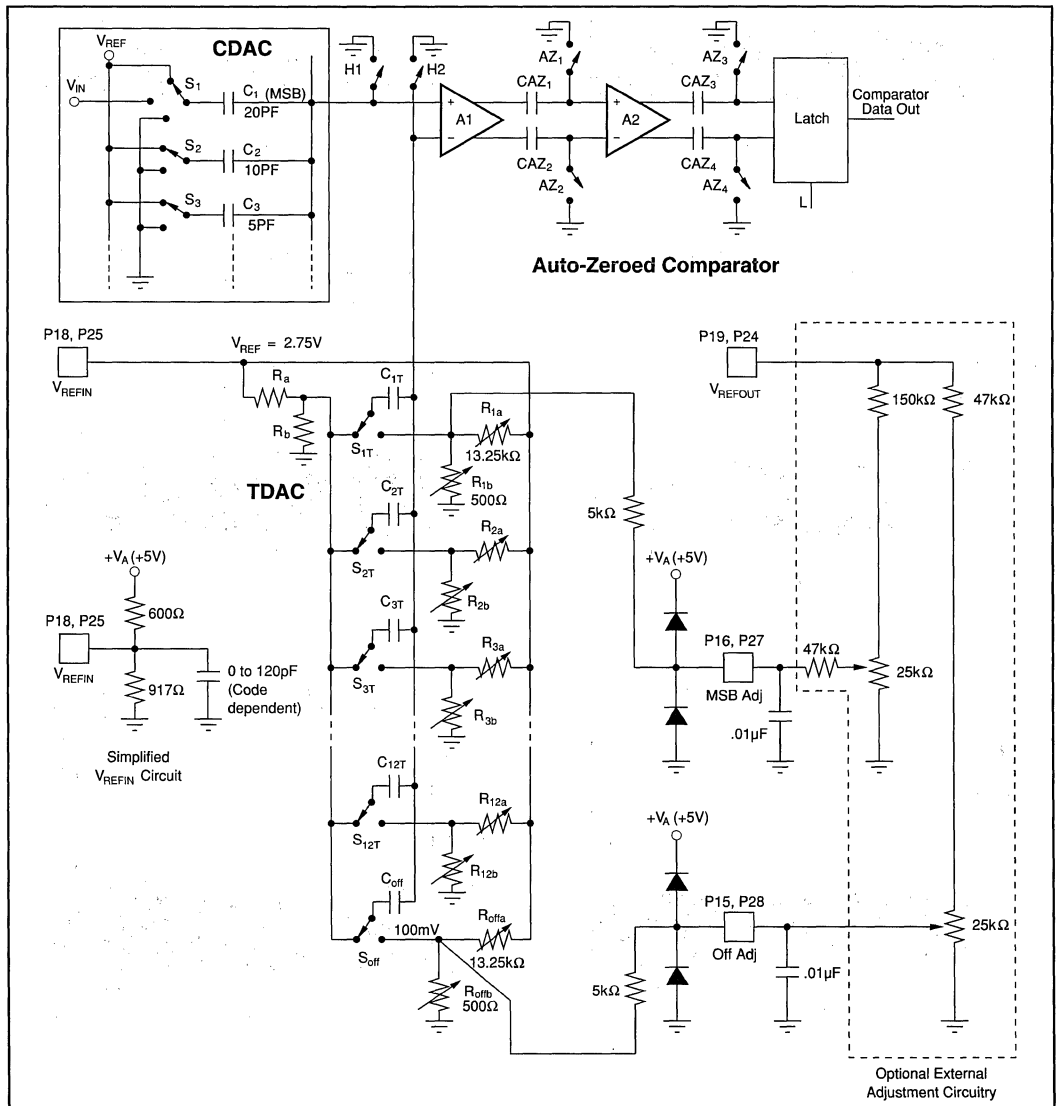
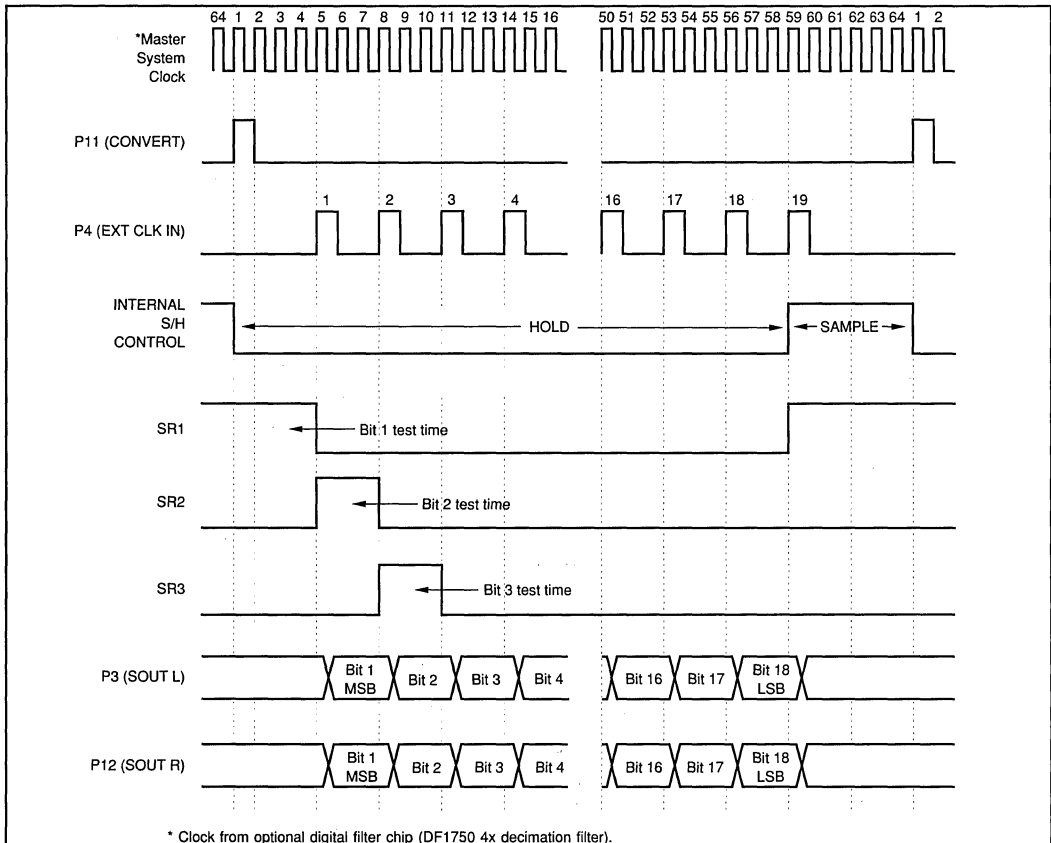

FIGURE 1. PCM1750 Simplified Circuit Diagram.
FIGURE 2. PCM1750 Input/Output Timing Diagram.
NOTES: (1) Binary Two's Complement coding. (2) The PCM1750 is tested and guaranteed at 5.2 μs , however it will operate at 4.5 μs . The dynamic performance is not guaranteed or tested at this conversion rate. (3) Ratio of $Signal_{RMS} / (Distortion_{RMS} + Noise_{RMS})$. (4) A/D converter sample frequency (4 x 48kHz; 4X oversampling per channel). (5) A/D converter input frequency (signal level). (6) Referred to input signal level. (7) Ratio of $(Distortion_{RMS} + Noise_{RMS}) / Signal_{RMS}$. (8) Externally adjustable to zero error. (9) Differential non-linearity error at bipolar major carry input code. Externally adjustable to zero error. (10) Full scale range (5.50V). (11) Refer to equivalent circuit in Figure 1. (12) Worst case operating condition. Refer to typical performance curves.
After each conversion, the dual ADC returns to the SAMPLE mode in order to track the input signals. The switches shown in the simplified circuit diagram of Figure 1 will then be in the following states: S1 connects V_{IN} to C1; S2 to S18 connect C2 to C18 to V_{REF} ; H1 and H2 connect the top plates of the capacitor arrays to analog common; and the latching comparator is switched into its auto-zero mode by closing AZ1 to AZ4. Notice that C1 serves two purposes: it samples and stores the input signal V_{IN} and it is the MSB of the CDAC. Storing V_{REF} on C2 to C18 creates a bipolar offset, enabling V_{IN} to cover a span from $-V_{REF}$ to $+V_{REF}$.
occurs during the SAMPLE period (see the timing diagram shown in Figure 2). These errors are stored on the AC coupling capacitors (CAZ1 to CAZ4, shown in Figure 1) between the gain stages. During the SAMPLE period the inputs to gain stages A1 and A2 and the latch are grounded by switches H1, H2, and AZ1 to AZ4. Capacitors CAZ1 and CAZ2 track the amplified offset voltage of gain stage A1 and capacitors CAZ3 and CAZ4 do the same for A2. At the beginning of a conversion cycle, the autozeroing switches open and the instantaneous amplified value of both the DC offset voltage and the low-frequency flicker noise is stored on the coupling capacitors to produce zero comparator offset during a conversion cycle.
The timing diagram in Figure 2 illustrates the successive approximation routine of the PCM1750. Control signals CONVERT and CLK are derived from a master system clock which comes from a $256f_s$ ($256 \times$ the base sampling frequency of 48kHz) clock used by the optional digital filter. There are 64 clocks shown in the timing diagram because the PCM1750 is shown operating at 4 times the standard 48kHz sample rate (192kHz).
analog common (see Figure 1). This terminates the comparator auto-zero cycle and simultaneously switches (co-phase sampling) both converters from tracking their respective input signals into the HOLD mode, thus capturing the instantaneous value of V_{IN} (with a small delay specified as the aperture time).
For example, the testing of bit-2 proceeds in the following manner. The positive pulse from the second shift register element SR2, (see Figure 2 and 4) is applied to the bit-2 data latch and NOR gate. The NOR gate in turn drives S2 and switches bit-2 at the beginning of the bit-2 test interval. Note that the bit interval must be long enough to allow both the comparator input to settle and the comparator to respond. On
Notice from the timing diagram in Figure 2 that the successive approximation algorithm operates synchronously with an external clock to minimize digitally-coupled switching noise from corrupting either the sample-to-hold operation or the critical comparator bit decisions. The two serial output data streams are derived synchronously from the respective latched comparator outputs and are available after a delay of one CLKIN cycle as illustrated in Figure 2. The serial output driver cells are TTL and CMOS compatible.
Operation of the TDAC (trim DAC), which is laser trimmed at the wafer level, is described using bit-1 as an example. Switch S1T (see Figure 1) operates between two voltage levels—a reference level set by voltage divider Ra, Rb and a laser trimmable level set by R1a, R1b. The differences of these two levels is coupled by capacitor C1T to the minus input of the comparator to generate a correction voltage for